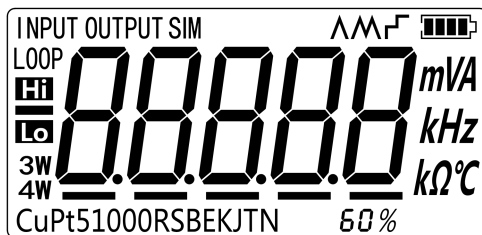

Figure 2.3-1
1. Please press  until the buzzer works, then the screen will display as shown in Figure 2.3-1: